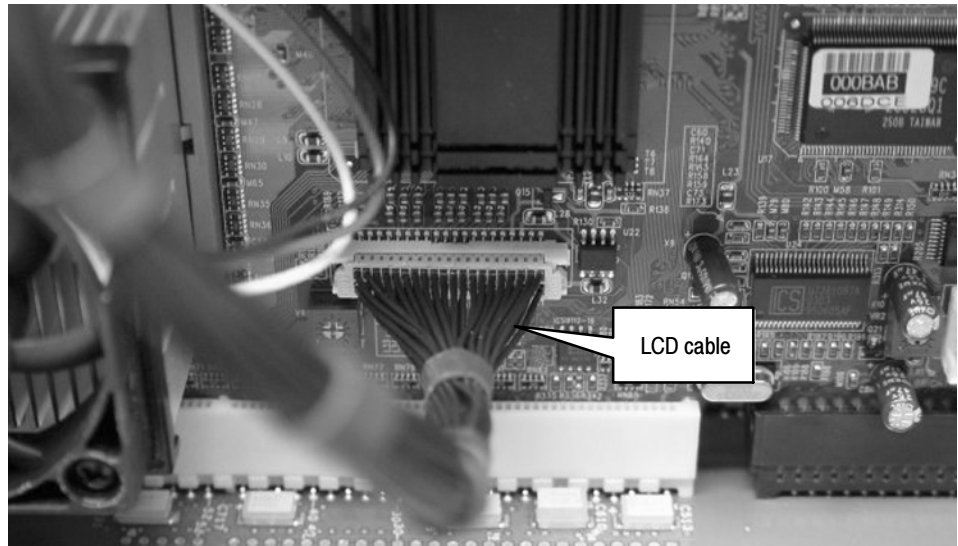

Figure 9: Connecting the LCD cable to the Controller board
4. Install the LCD cable into the controller board at connector marked “LCD Con” (see Figure 9).